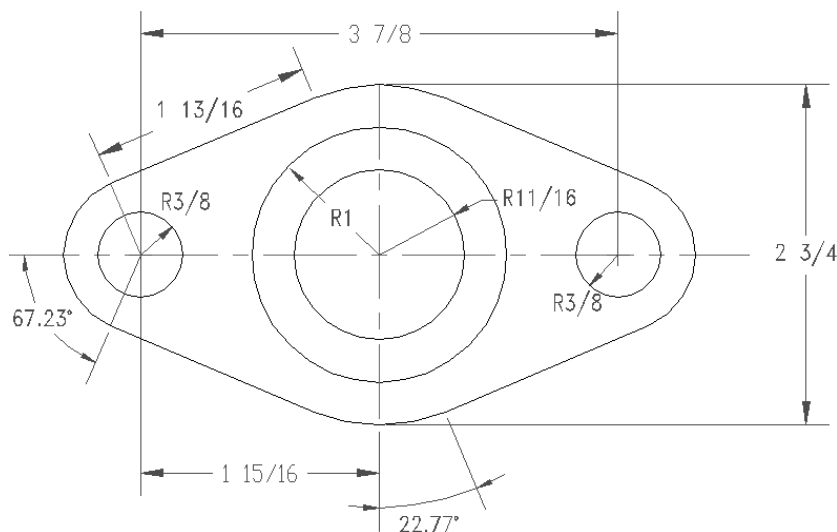

Figure 7-5: The dimensioned sealing plate for a valve.
2. Save the file as `ab07-02.dwg` in your `AutoCAD Bible` folder. ORTHO is on and units are set to Fractional. Choose **Tools** ⇨ **Drafting Settings** (clicking the **Object Snap** tab, if necessary) and set running object snaps for intersection, center, and endpoint. Make sure OSNAP is on. In this exercise, you draw part of the sealing plate shown in Figure 7-5.